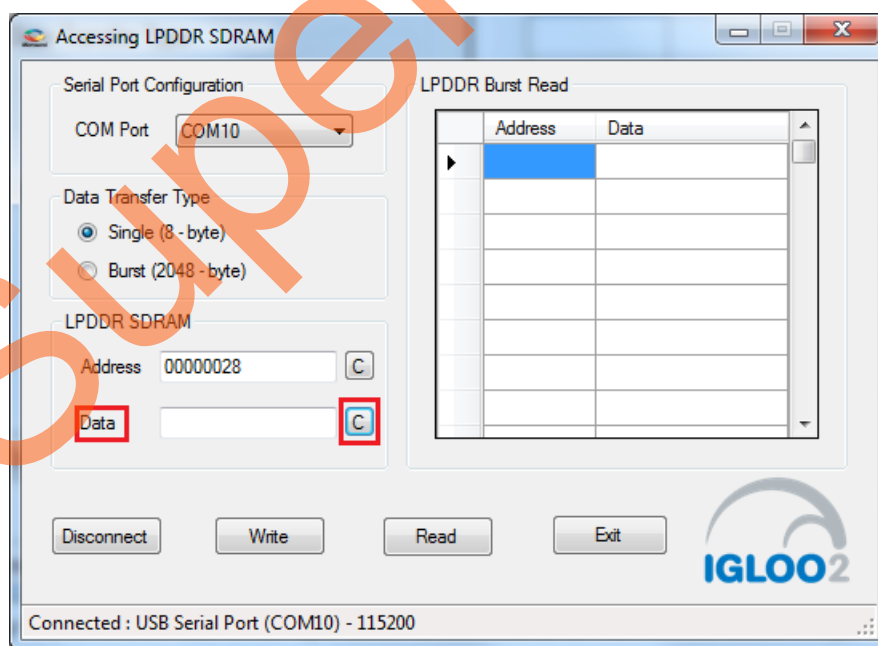

Figure 22 • Clear Data Field
6. Press **C** to clear the data present in the **Data** field. Figure 22 highlights the Clear button, C.